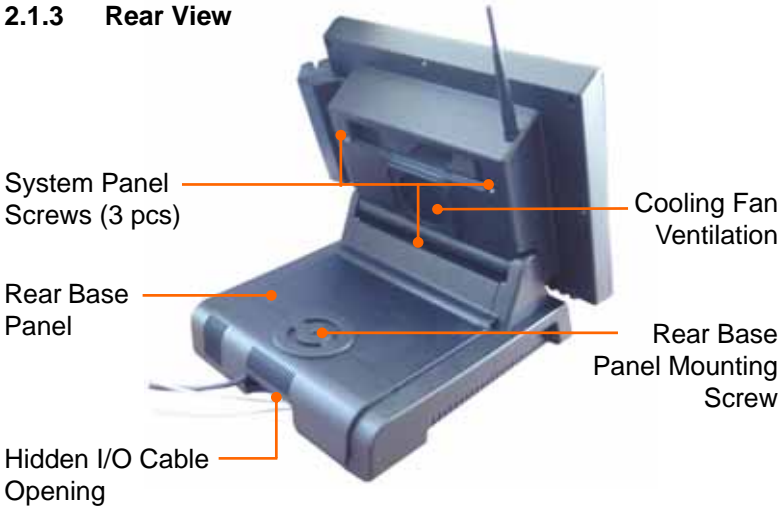

FIGURE 2-3: Q-POS REAR VIEW
After removing the 3 system panel screws (see figure 2-3), carefully remove the metal main board cover plate to expose the main board. Be sure to keep the screws in a secure place.
2. Inside the rear system panel (see figure 2-3), and the metal housing plate. The 184 pin DDR DIMM socket is found on the right side of the main board.